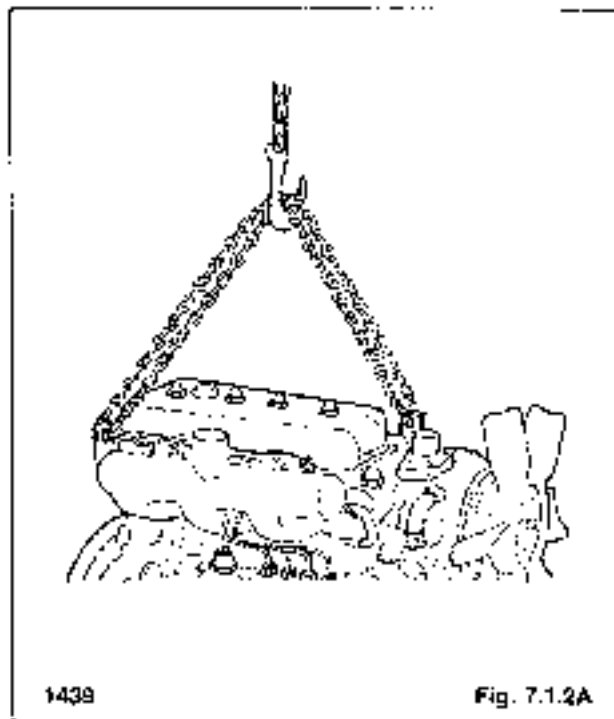

Fig. 7.1.2A
1. Connect chains to the engine (Fig. 7.1.2A) at the lifting lugs mounted at the front and rear of the engine.